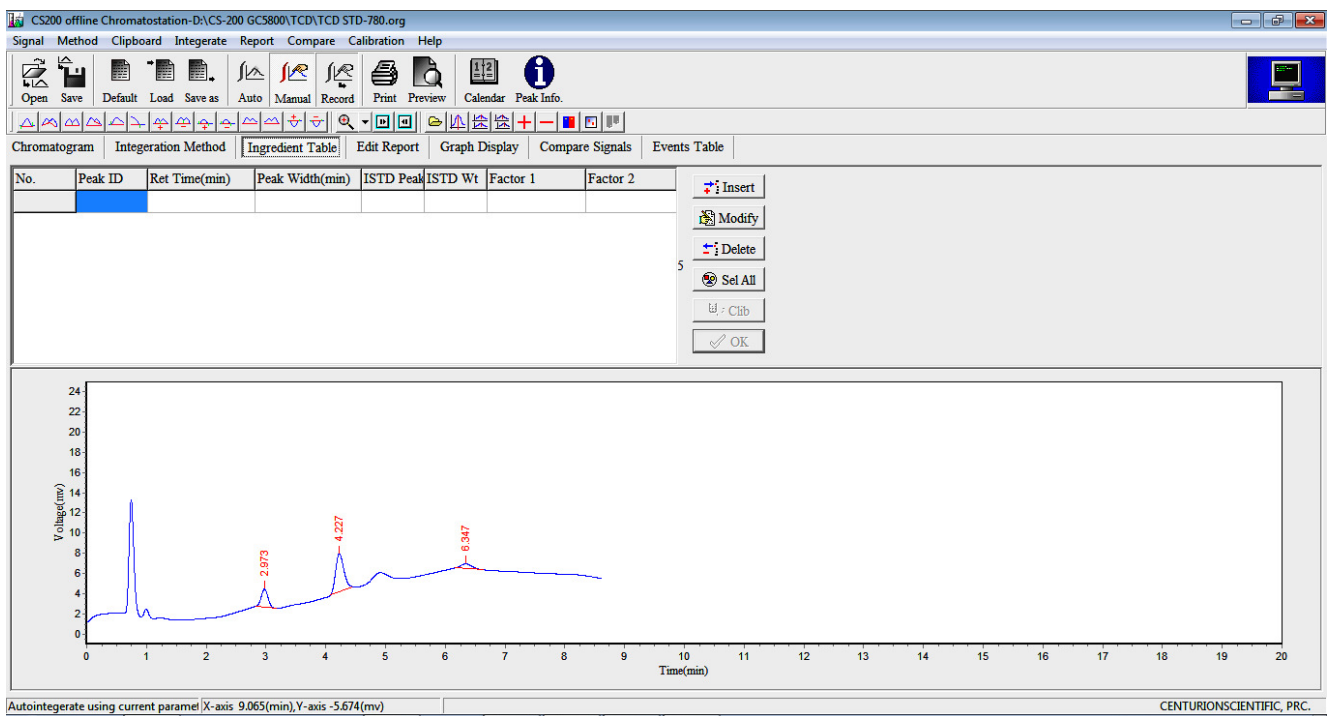

Figure D-300. The Dialog Box for Setting the Calibration Table
4. The selected Chromatogram will be loaded and displayed as shown in Figure D-300.